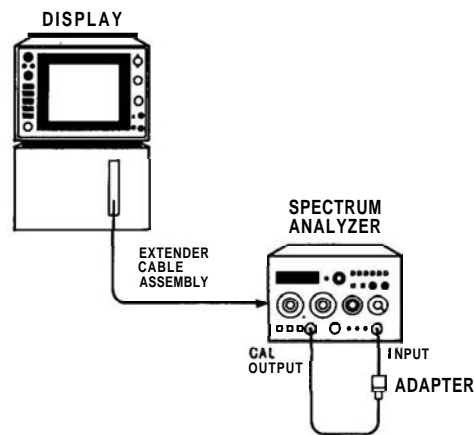

FIGURE 5-5. CRYSTAL AND LC BANDWIDTH FILTER ADJUSTMENT TEST SETUP
- 2. Connect equipment as shown in Figure 5-5.